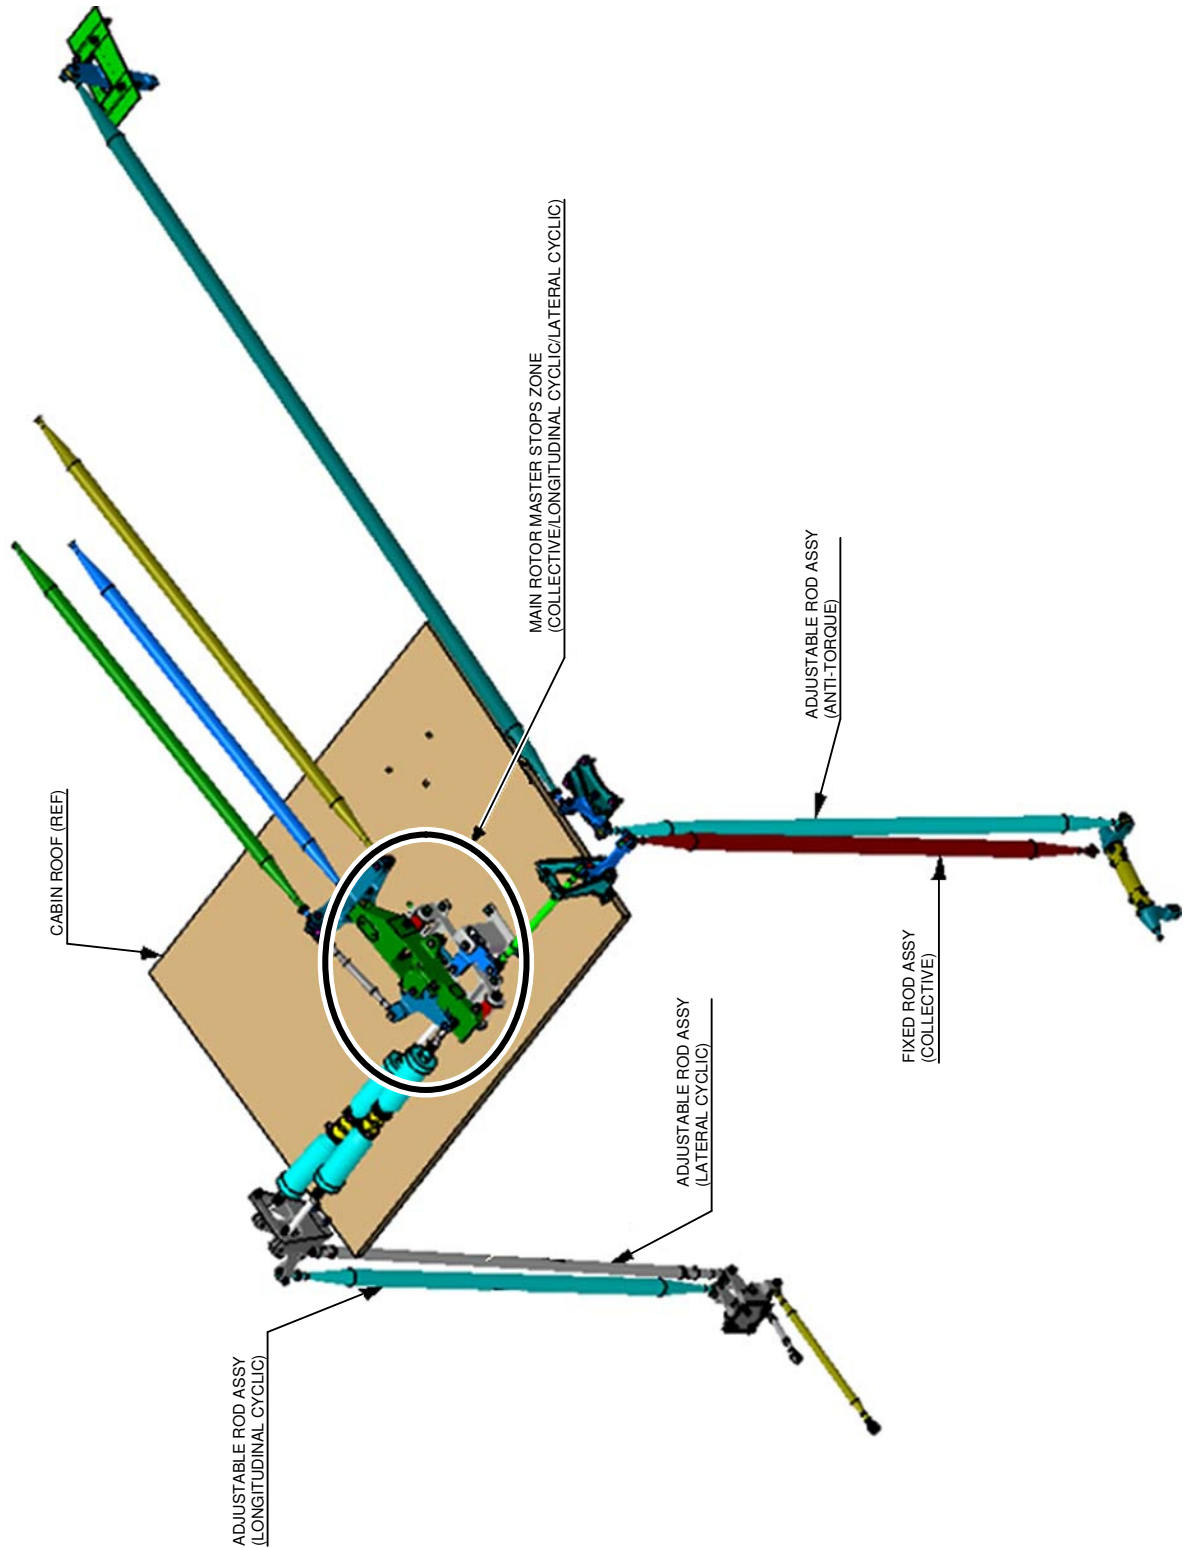

Figure 3
66. To check that the Fixed Flight Component have been properly re-installed, get access to the cyclic control stick on the left side of the cockpit, and with hydraulic power supply at 1500 PSI perform the following Step of MM Paragraph 67-00-26, (ref. Figures 3 thru 10):